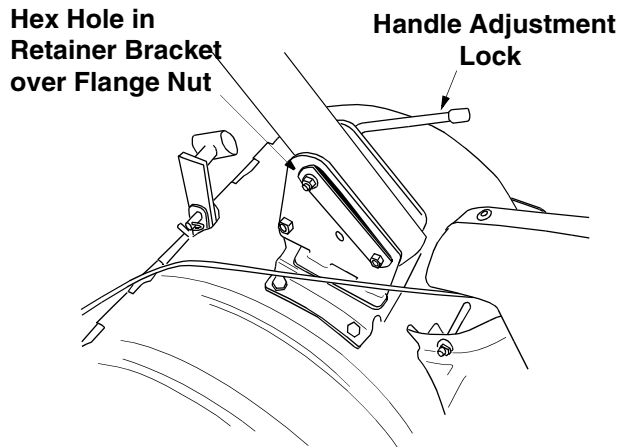

Figure 4
- Place the hex opening of the flange nut retainer bracket over the flange nut securing the handle adjustment lock and install the lock nut on the lower shoulder bolt. See Figure 4.